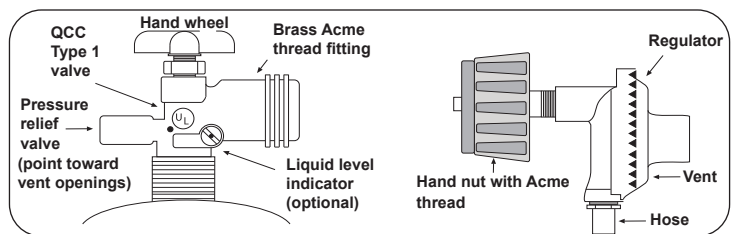

Fig. 7-1 Type I Acme thread coupler
- The pressure regulator and hose assembly used must match the specification for Type I by ANSI Z 21.58/CGA 1.6 (see Fig. 7-1).
To disconnect: Turn the hand nut counterclockwise until detached (Fig. 7-1).